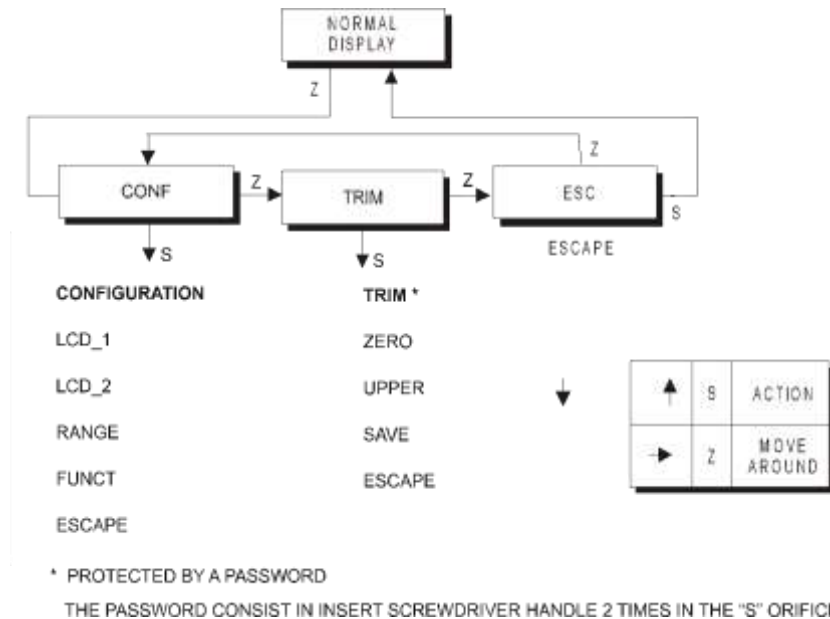

Figure 4.2 – Local Adjustment Programming Tree – Main Menu
2. In order to reach the desired option, browse the options, wait until they are displayed and move the magnetic tool from **(Z)** to **(S)**. Refer to Figure 4.2 – Programming Tree Using Local Adjustment, in order to know the position of the desired option. By placing the magnetic tool once again in **(Z)**, it is possible to browse for other options within this new branch.
The local adjustment uses a tree structure where, by placing the magnetic tool in **(Z)** it is possible to browse the options of a branch and by placing it in **(S)**; details of the chosen option are shown. Figure 4.2 shows the **LD291** available options.